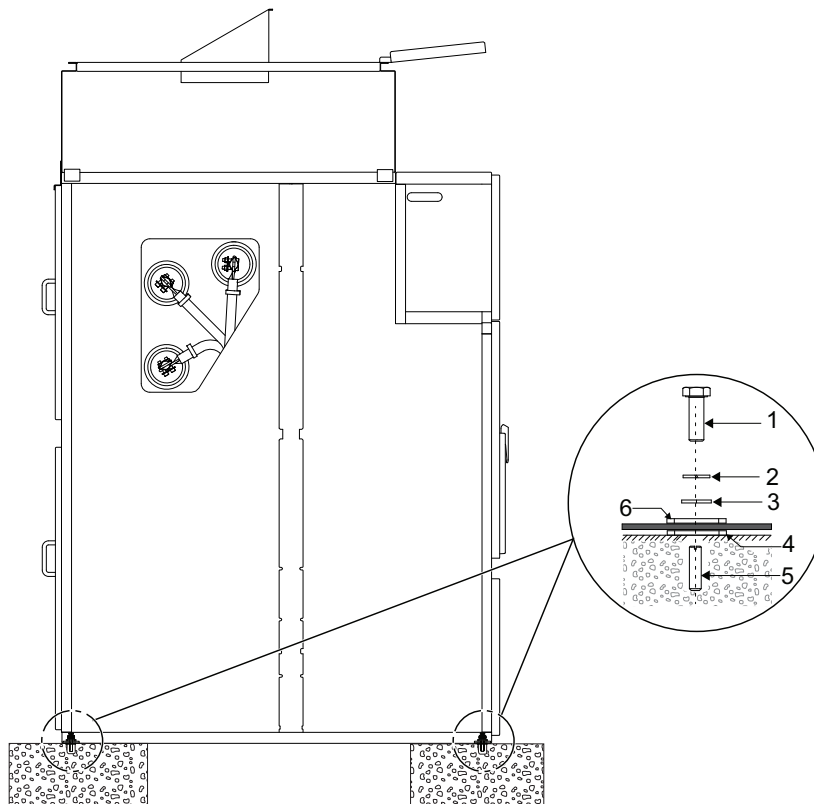

Figure 24
- If necessary, raise the cubicle and insert shims below the cubicle near the fastening points until the correct horizontal position is achieved, refer to Figure 24.